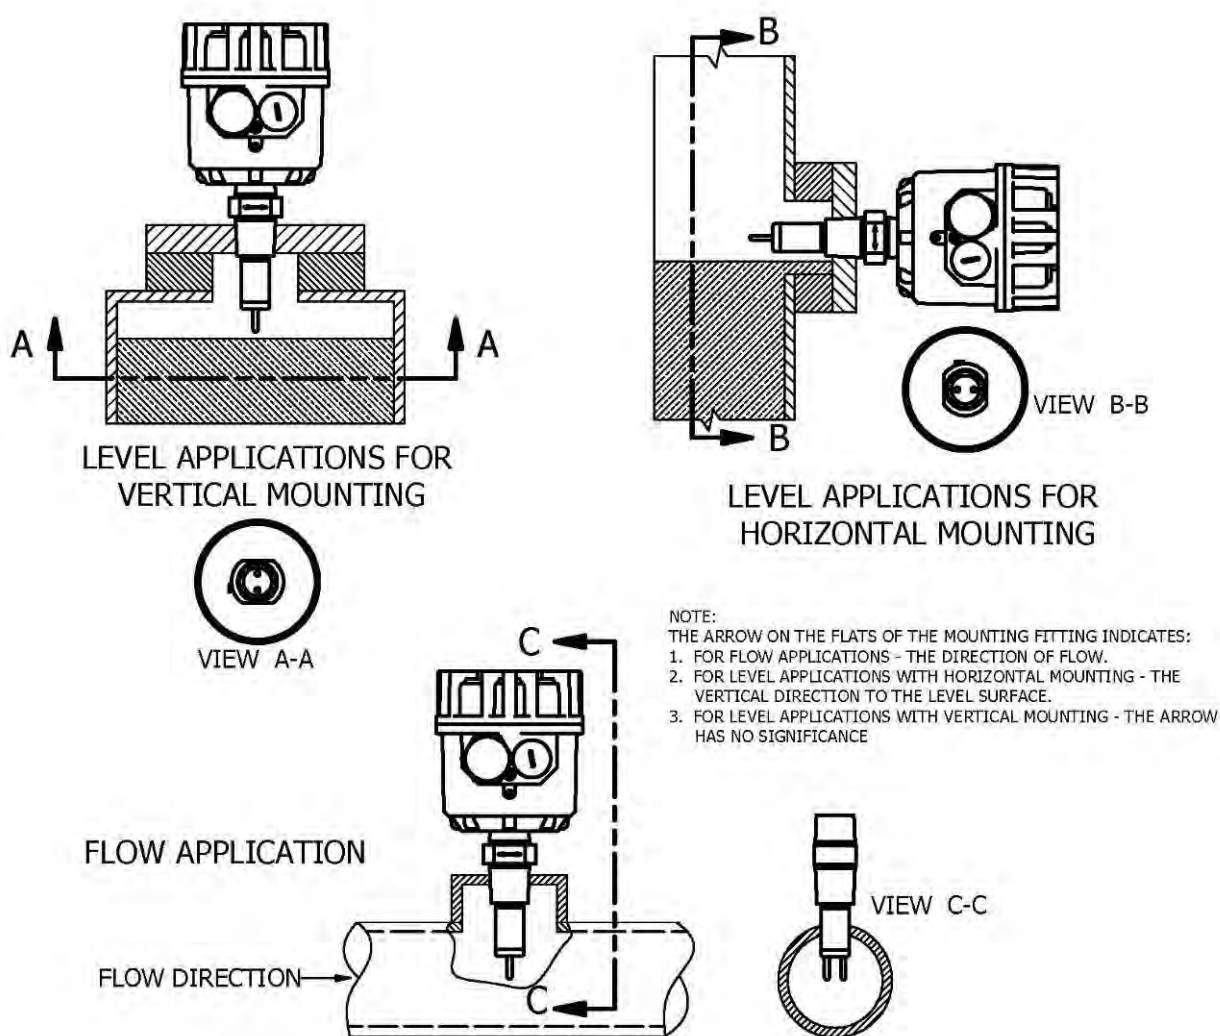

FIGURE 5: PROPER ORIENTATION OF THE SENSOR PROBE FOR LEVEL AND FLOW APPLICATION IS INDICATED BY THE ARROW ON THE FLAT OF THE MOUNTING FITTING. (MTF500.DWG/FCW)
- **THE SWITCH BODY MUST BE ORIENTED TO HAVE THE TWIN SENSORS PARALLEL TO THE LEVEL BEING DETECTED WHEN THE SENSOR IS INSTALLED HORIZONTALLY FOR POINT LEVEL APPLICATIONS. LIKEWISE, FOR FLOW APPLICATIONS, THE SWITCH BODY MUST BE ORIENTED TO HAVE THE TWIN SENSORS PERPENDICULAR TO THE FLOW BEING DETECTED. DUE TO THE PIPE THREAD MOUNTING, IT MAY BE NECESSARY TO MAKE A TRIAL FIT, ADD OR REMOVE TEFLON TAPE OR OTHER PIPE THREAD SEALANT, AND REINSTALL TO ACHIEVE A SATISFACTORY SEAL WITH THE SENSORS PROPERLY ORIENTED. FOR VERTICAL INSTALLATION OF SENSORS FOR POINT LEVEL DETECTION THE ORIENTATION MAKES NO DIFFERENCE. PROPER ORIENTATION IS MARKED ON THE SWITCH BODY FOR REFERENCE (SEE FIGURE 5).**